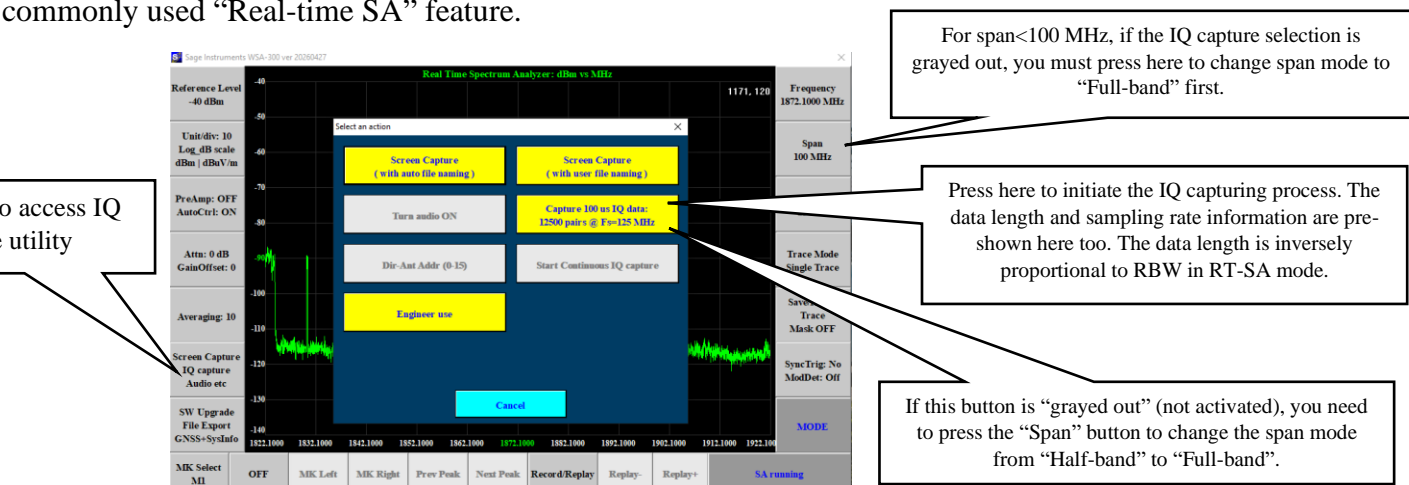
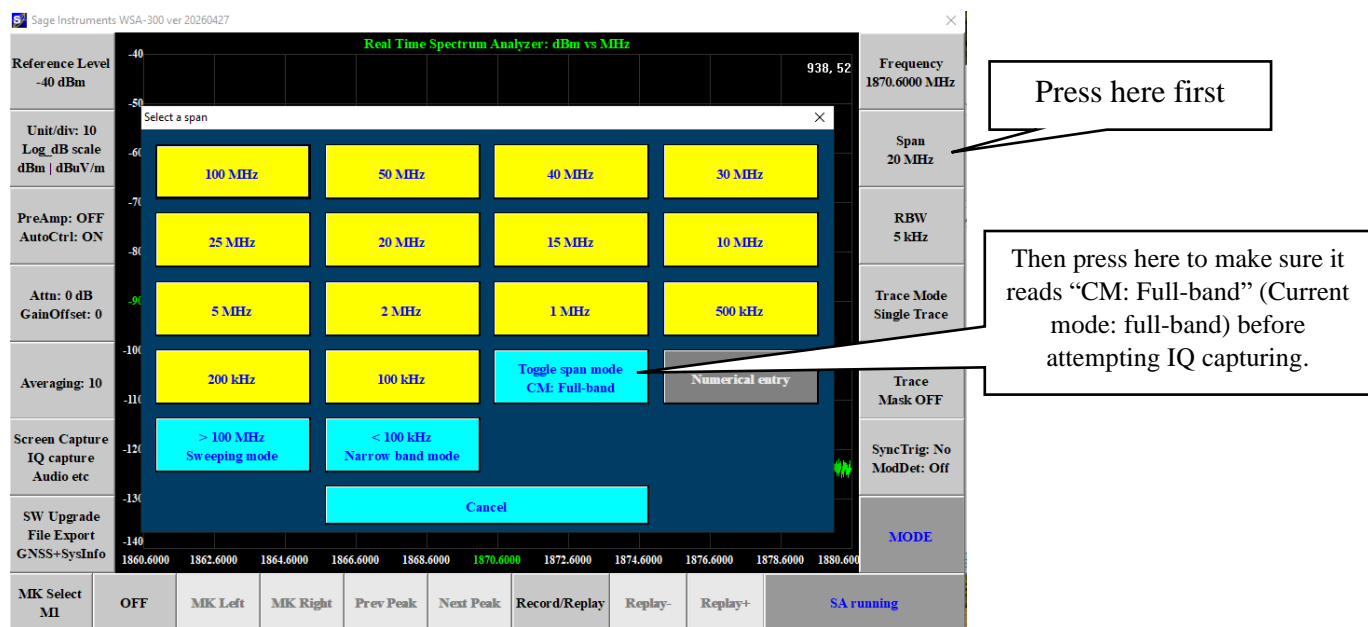

Figure 6 - Steps to take to initiate a single-instance of IQ capture at will
Figure 7 - For span <100 MHz, these are the steps to make sure it's in “Full-band” mode before capturing IQ.
with the touch of a button. Figure 6 shows an example of IQ capture instance under the most commonly used “Real-time SA” feature.
For span<100 MHz cases, if the IQ capturing selection is grayed out (disabled”) in Figure 6, you then need to press the “Span” button and change the span mode from “Half-band” to “Full-band” as shown in Figure 7.
3. After proper setups, you initiate the actual IQ capturing process using the same steps as shown in Figure 6.